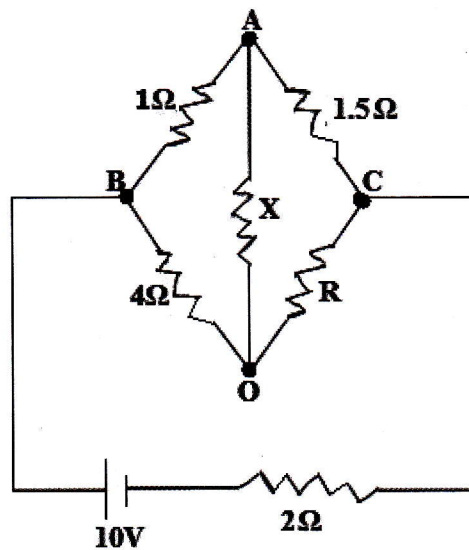

Figure 2
19. Determine the value of R and current through it in figure 2 below; if the current through branch AO is zero. **10marks**